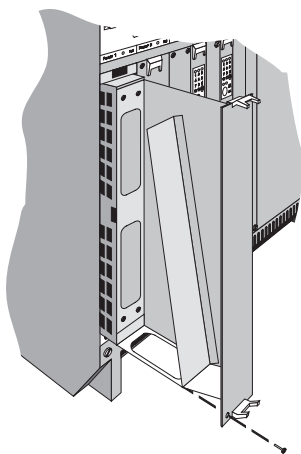

Figure 2-3 Inserting the PSU (3C18011 shown)
- 4 Orientate the power supply unit so that the ejector showing the part number is at the top and the 11 way DIN connectors are nearest to the unit. See Figure 2-3.
- 7 Using a suitable screwdriver, tighten the single security screw that is at the foot of each PSU, adjacent to the ejector. This captive screw is shown removed from the unit in Figure 2-3 for clarity.